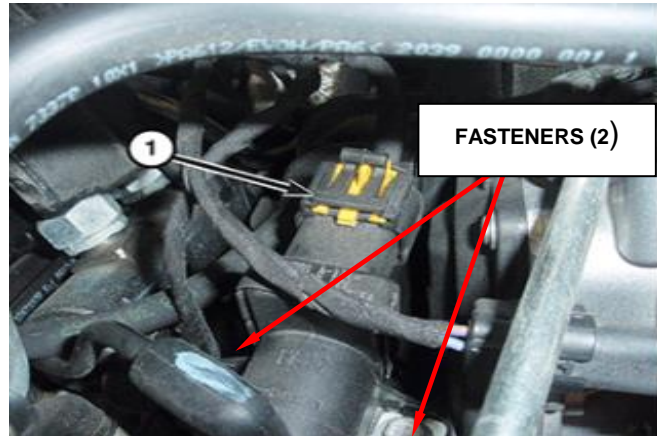

Figure 17 – EGR Vacuum Solenoid
21. Disconnect the EGR Vacuum Solenoid harness electrical connector (1) (Figure 17).
22. Remove the 2 fasteners from the EGR solenoid (Figure 17).
14. Install the EGR bypass solenoid and tighten the bolts to 9 N·m (80 in. lbs.) (Figure 17).